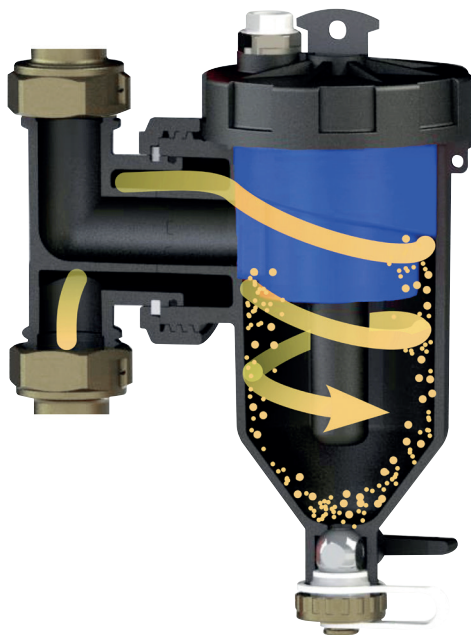

Fig. B1: cyclonic filtration + decantation in the dirt separator
- **cyclonic filtration:** water enters the adjustable Tee (2) which conveys it towards the external surface of the cyclonic filter (7). A swirling motion is given to the water current. Dirt particles begin to separate thanks to centrifugal force (fig. B1);
- **impurity decantation in the dirt separator:** then water enters the dirt separator (1), slows down and particles begin to fall towards the device bottom under the effect of gravity (fig. B1);